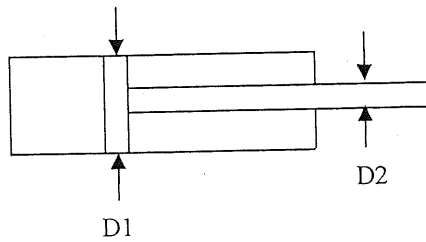

Figure 1
c) Complete the Table 1 by calculating extend and retract forces, if diameters D1 is 1.5 inch and D2 is 0.625 inch. Please refer to Figure 1 and your calculations for each extend and retract forces should be shown.